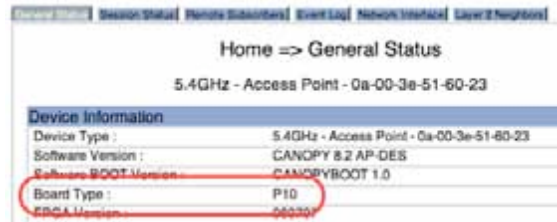

Figure 1: Board Type on Modules running Release 8
- For modules that are running Release 8, look on the Home => General Status page, under “Board Type:” as shown in Figure 1.